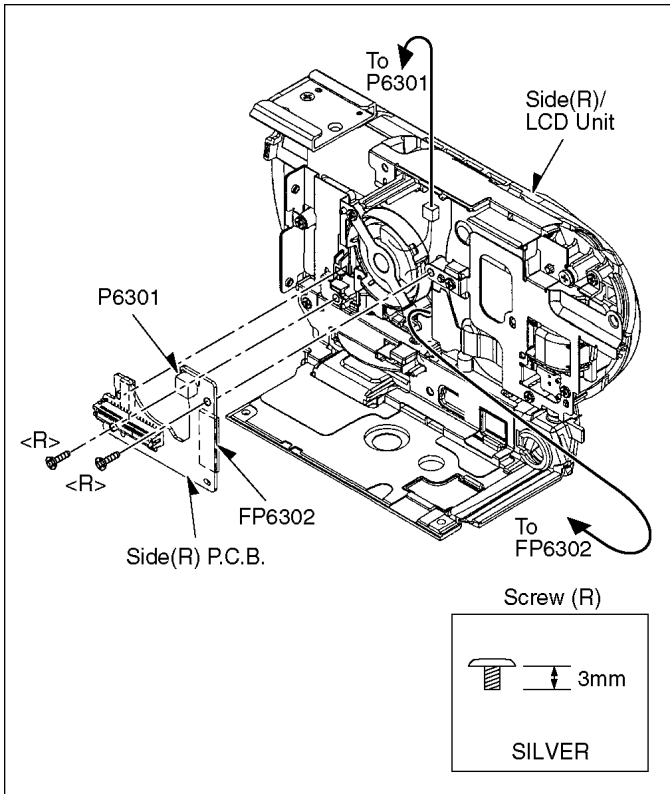

Fig. D13
| 10 | Side(R) P.C.B. | Fig. D13 | 1-Connector P6301 2-Screws (R) 1-Connector FP6302 Side(R) P.C.B. |